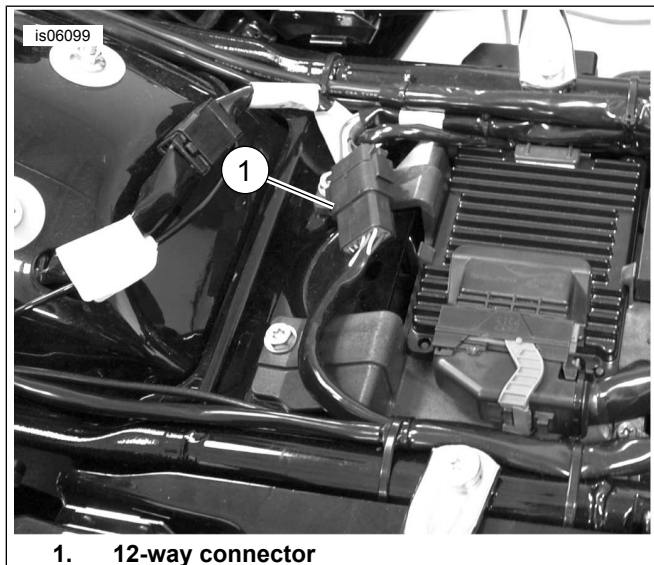

Figure 5. 12-Way Connector of Overlay Harness
1. See Figure 5. Connect the rider headset harness to the 12-way connector of the Non-Ultra Overlay Harness.